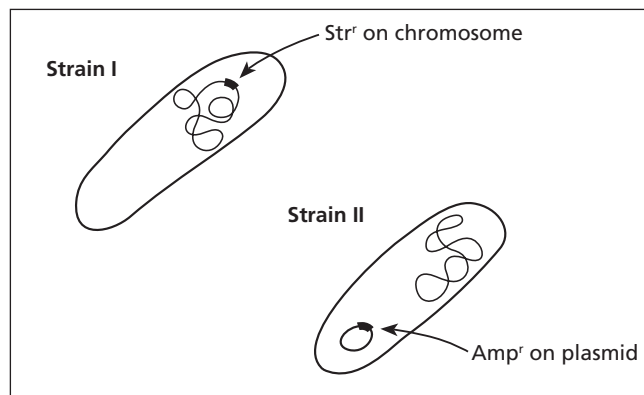

Figure 1. Location of genes for antibiotic resistance in *E. coli* strains I and II
2. Obtain the *E. coli* Strain I and Strain II liquid cultures that will be shared between your group and one other lab group. Strain I has a gene for streptomycin resistance (Str^r) in the chromosome. Strain II has a gene for ampicillin resistance (Amp^r) on a plasmid (see Figure 1).